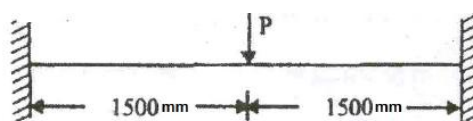

Figure 4 (a)
- 4 a) A concentrated load $P = 60 \text{ KN}$ is applied at the center of a fixed beam of length 3 m, depth 200 mm and width 120 mm. Calculate the deflection and slope at the midpoint. Also find reactions at the supports. Assume $E = 2.1 \times 10^5 \text{ N/mm}^2$ as shown in figure 4 (a)